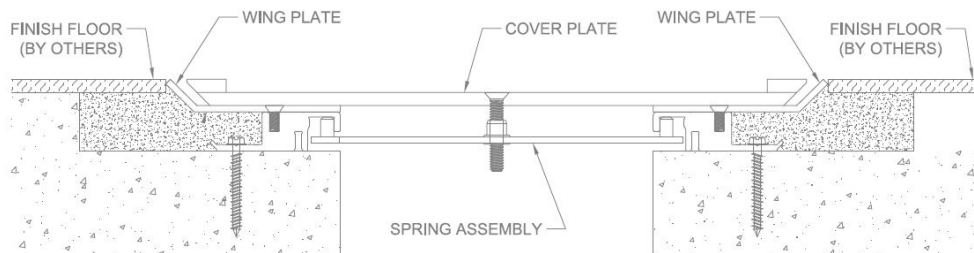

FIGURE 7
- Position the cover plate centered over the base frame and with the center hole aligned with the spring assemblies. Attach the cover plate to the spring assemblies with the provided spring screws. **DO NOT OVERTIGHTEN.** **See Figure 7**